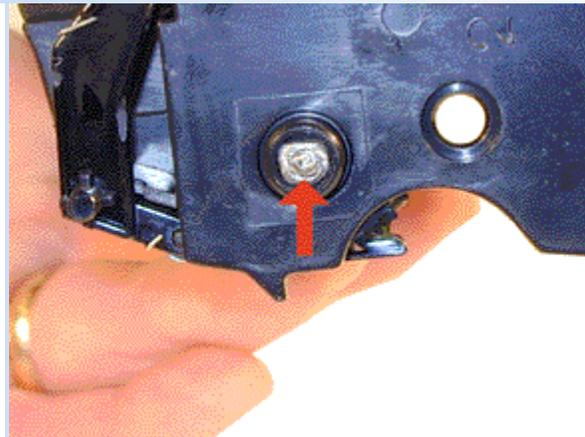

FIGURE 11
5. From the right side of the drum half, take a small punch or screwdriver and drive the metal axle pin out. This axle comes out easily. Make sure you do it from the right side, (the keyed Side), If you try and drive the axle out from the opposite side, the axle will not move. Remove the drum. See Figure 11